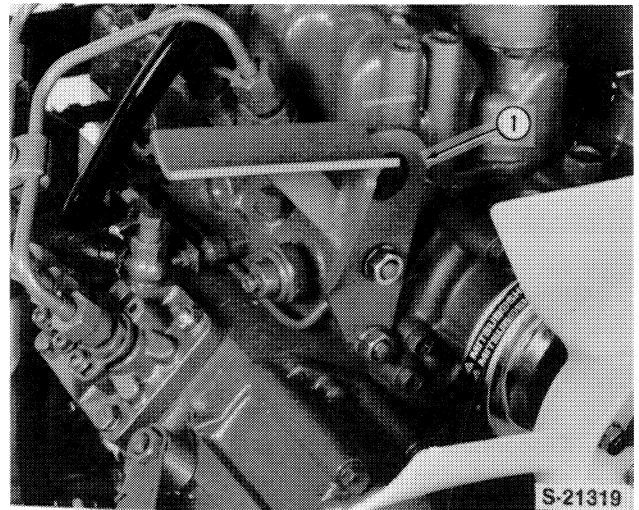

Figure 10
- Loosen the intake tube clamps (3) and remove the intake tube (2).
- Loosen the air cleaner hose clamps (5) and remove the hose (4).
- Loosen the air cleaner canister retaining clamps (6) and remove the air cleaner assembly from the mounting bracket.
- Remove the mounting bracket bolts and spacers and remove the bracket (1) from the cylinder head, Figure 10.